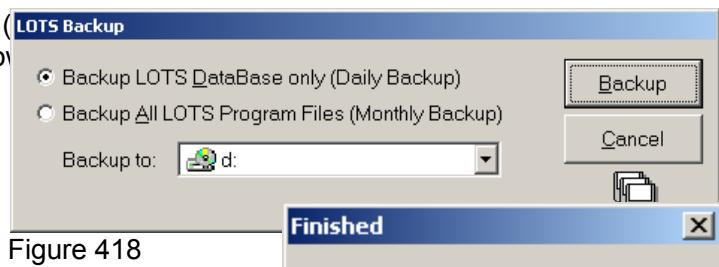

Figure 418
3. Check that the correct backup type (Backup LOTS DataBase only (Daily Backup)) is selected then click 'Backup' (as shown in Figure 418).